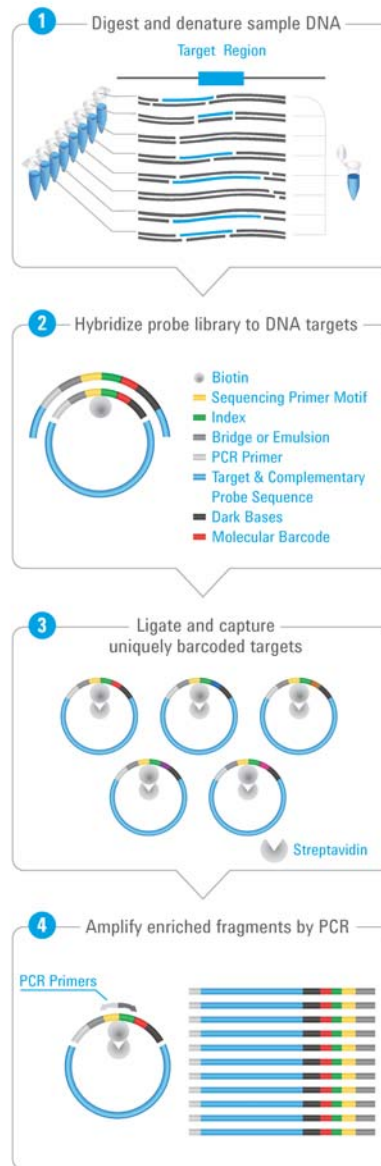

Figure 2 Overall HaloPlex HS target-enriched sequencing sample preparation workflow.
Figure 2 summarizes the HaloPlex HS target enrichment workflow for Ion Torrent sequencing. For each sample to be sequenced, individual HaloPlex HS-enriched, indexed libraries are prepared. Indexing using 16 distinct sequences allows pooling of up to 16 samples per sequencing chip.
- For sample indexing during hybridization to the HaloPlex HS probe (see Figure 2), you will need to prepare a separate plate containing the HaloPlex HS ION Indexing Primers. Assign the wells to be indexed with their respective indexing primers during experimental design. See the Reference chapter for nucleotide sequences of the 16 indexes used in the HaloPlex HS Target Enrichment System for Ion Torrent sequencing.
Designs containing <20,000 probes use a 2-hour hybridization time. For these designs, DNA digestion through PCR protocols (see Figure 2) are typically run on the same day with the DNA digestion protocol initiated early in the day.